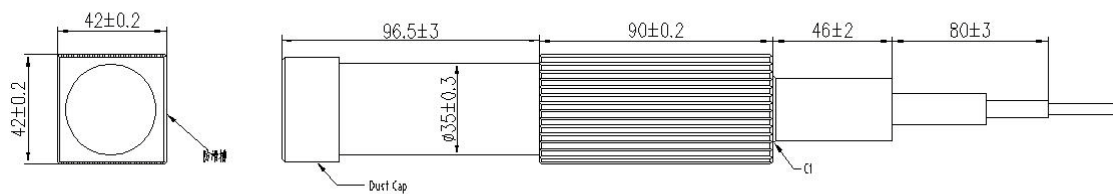

Figure 2. Dimension drawing of output isolator (Unit: mm).
2) Isolated output head dimensions (As shown in Fig. 2).